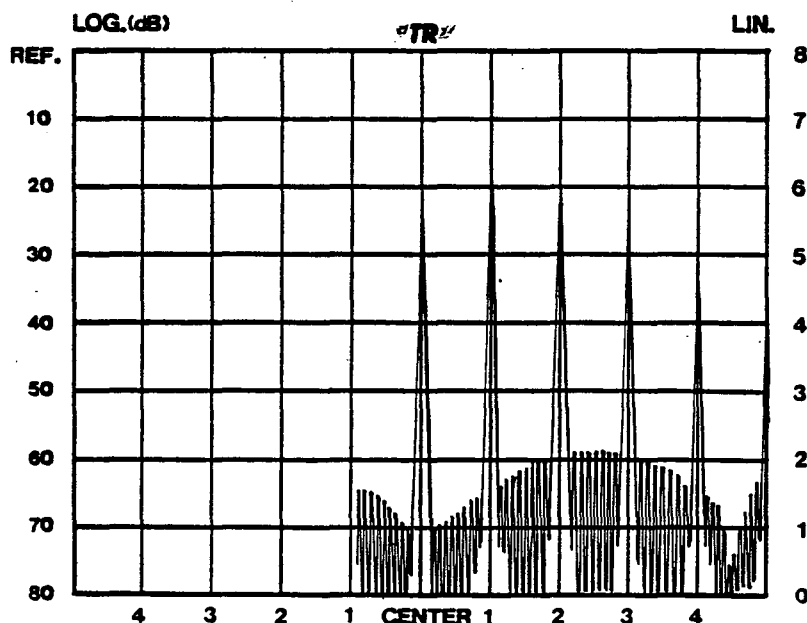

Fig. 3-4 CAL. OUT. signal spectrum
- (12) If the FREQUENCY indicator does not show 00.0 MHz, set it at 00.0 MHz by turning the ZERO ADJ. control.
- (13) Interconnect the CAL. OUT. connector and the INPUT connector with the attached cable (MI-02). In the case of the -TR-4114H/4114HT, insert a 50  $\Omega$  terminator (-TR-1622) into the INPUT connector before connecting the cable. Then the spectrum shown in Fig. 3-4 appears on the CRT screen.